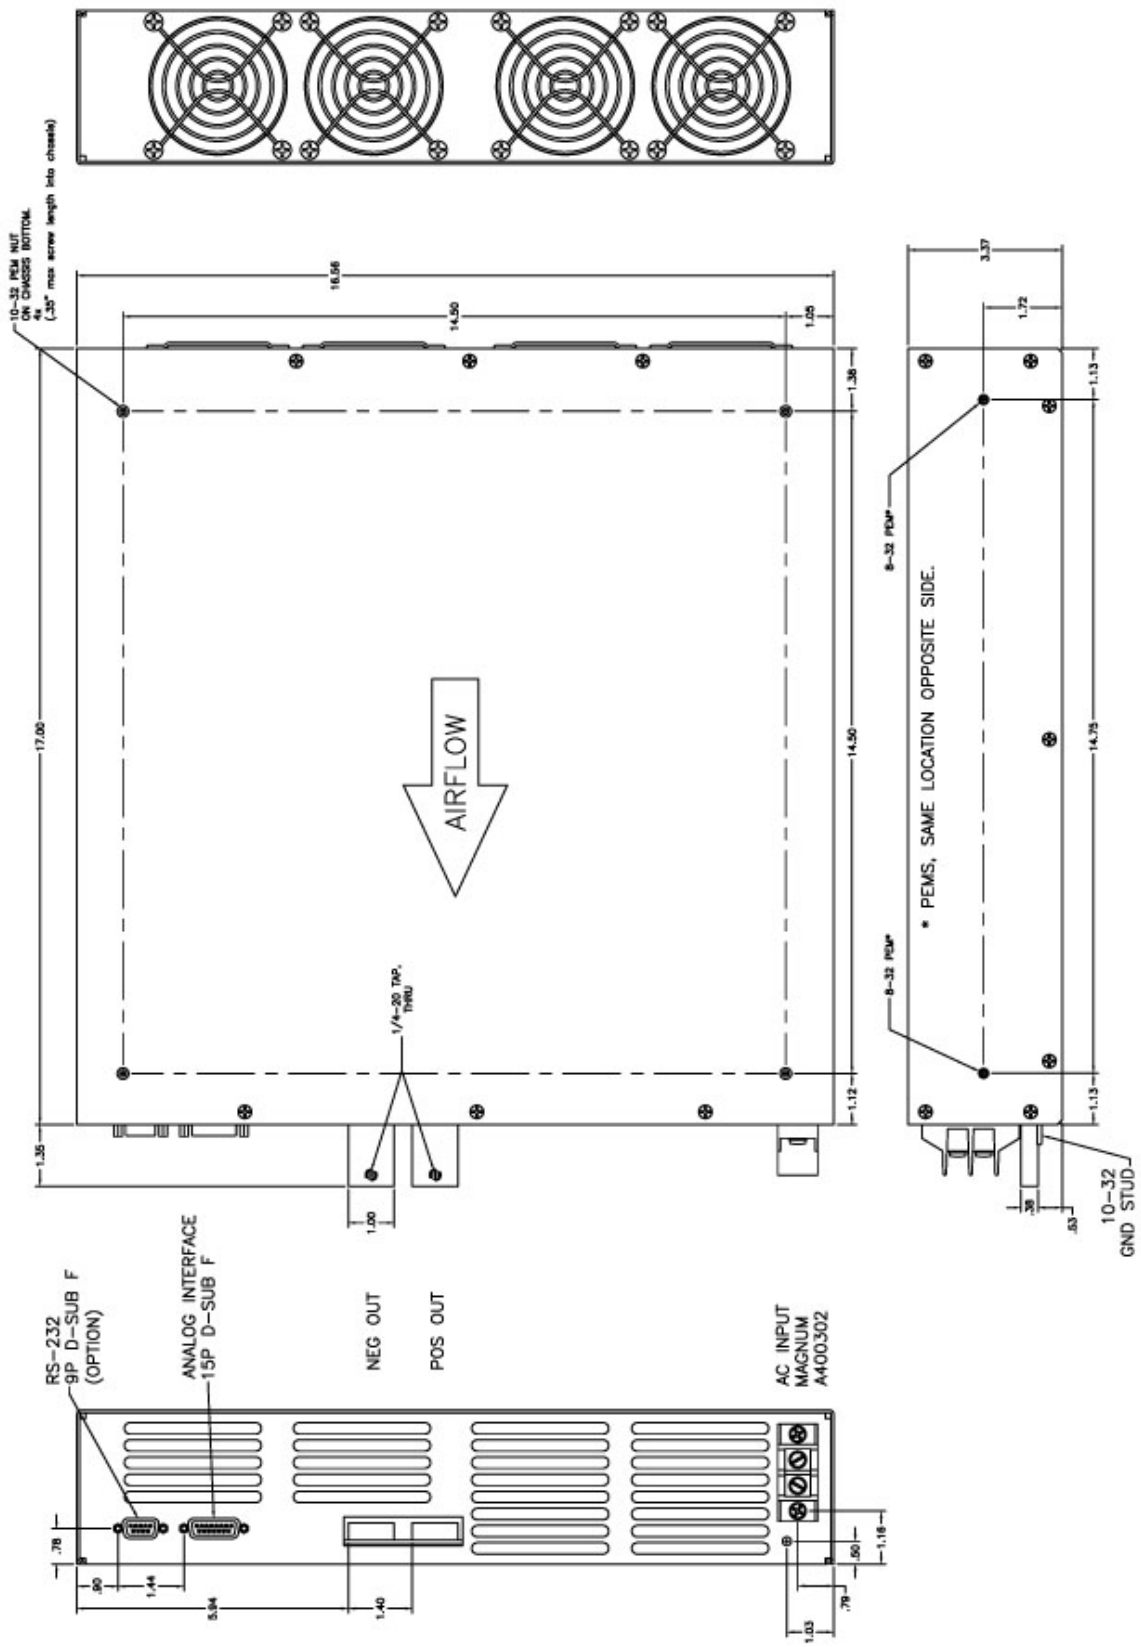

Figure 4
Refer to Figure 4, LDD-3000 Outline Drawing for location of RS-232 Connector
1. **Installing the power supply:** Refer to Figure 4, the LDD-3000 Outline Drawing. There are two 8-32 threaded PEM holes on both sides of the power supply which can be used to mount rack slides. Also, there are four 10-32 threaded PEM holes on the bottom of the supply for mounting purposes. The mounting screws should not penetrate the power supply more than 3/8"